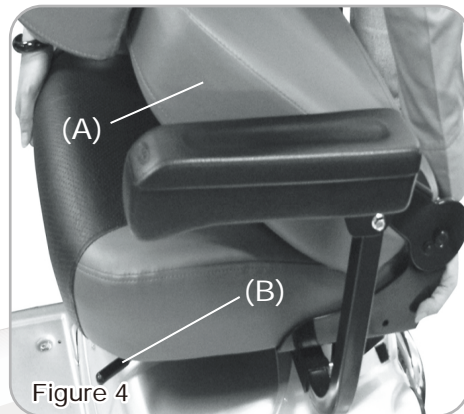

Figure 4
Seat (A) is removable by releasing the Seat Adjusting Lever (B) and then lift off. (See Fig. 4)